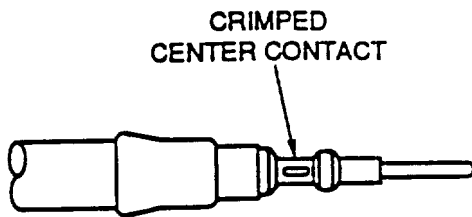

Figure 25. Crimp Center Contact
g. As shown in Figure 25, crimp center contact to center conductor using crimp tool frame M22520/2-01 and positioner M22520/2-28.